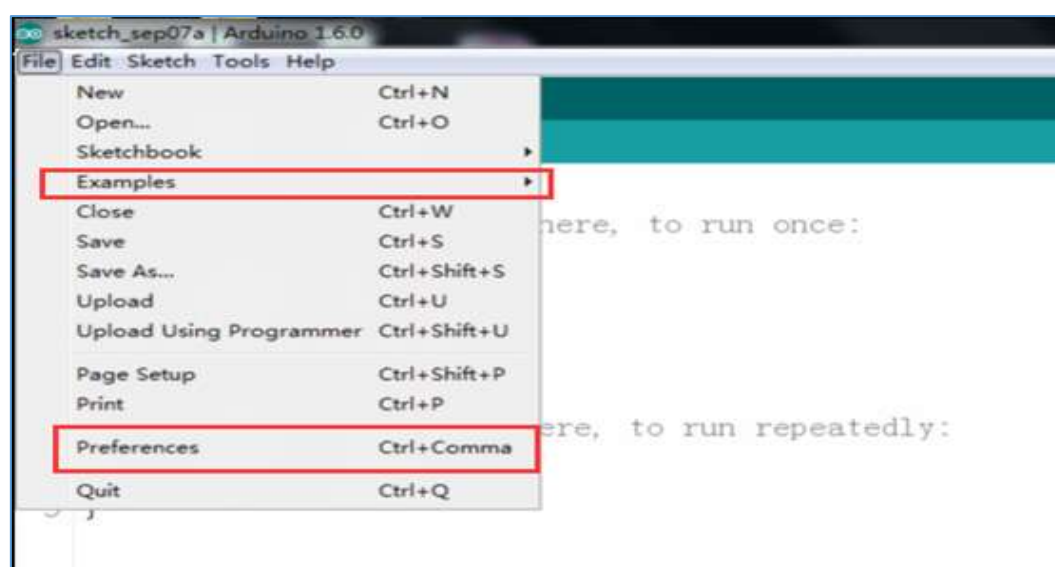

Figure 2.1.13 File Menu Bar Options
2. There are 5 menus on the menu bar, but we mainly introduce File and Tools. Click File, the interface as shown in Figure 2.1.13 will be displayed, you can see the Examples and Preference options. The Examples are some of the Arduino's own programs, these are compiled without errors, the normal use of the program, a great help for beginners. The Preference option, It's mainly about the parameter settings, such as language, fonts and so on.